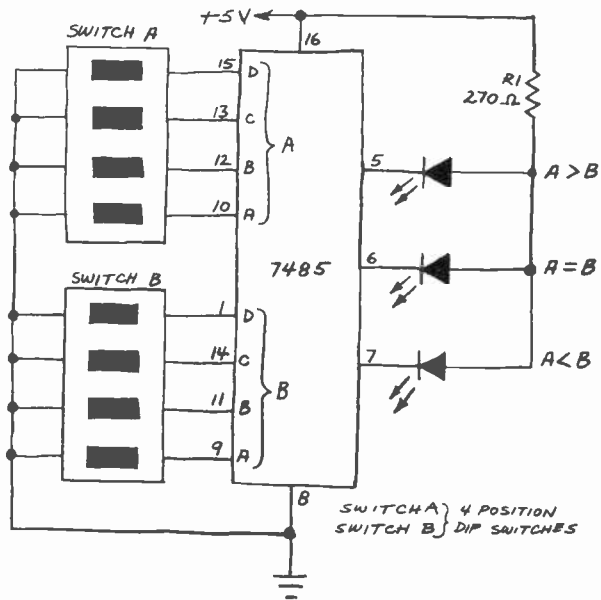

Fig. 5. Demonstration circuit using a 7485.
**7485 Demonstration Circuit.** A good way to learn how the 7485 works is to assemble the test circuit shown in Fig. 5. This circuit allows you to manually apply two 4-bit nibbles to a 7485 and simultaneously monitor three LEDs that indicate the status of the chip's outputs. Because the activated output of the 7485 is high, the LED connected to it is *off* and the other two LEDs are on. This might seem a little confusing at first, but you'll soon become accustomed to it. If you prefer that the LED connected to the activated output glow and the other two LEDs remain off, you can use the 7485 as a current source rather than a current sink. We'll see how this is done later.
Although the circuit shown in Fig. 5 specifies two 4-position DIP switches, you can use a single 8-position switch if you prefer. In operation, a switch that has been closed applies a logic 0 to the comparator input, and an open switch applies a logic 1. For this reason, it's best to install the DIP switches upside down. While experimenting with this circuit, you might find that the DIP switch occasionally fails to register properly. Some DIP switches are less reliable than conventional toggle switches, and you might have to press a switch into position more than once before it makes or breaks contact. You will also, no doubt, find that this circuit poses a test of your ability to manipulate binary numbers. We'll explore this aspect of using the 7485 in more detail later.
**How to Cascade Two 7485's.** The circuit in Fig. 5 has only sixteen possible combinations, but you can increase the number to 128 by adding a second 7485 and using an 8-bit combination. Cascaded comparators have other applications as well, particularly in light of the fact that most microprocessor and controller circuits work with words having eight or more bits.